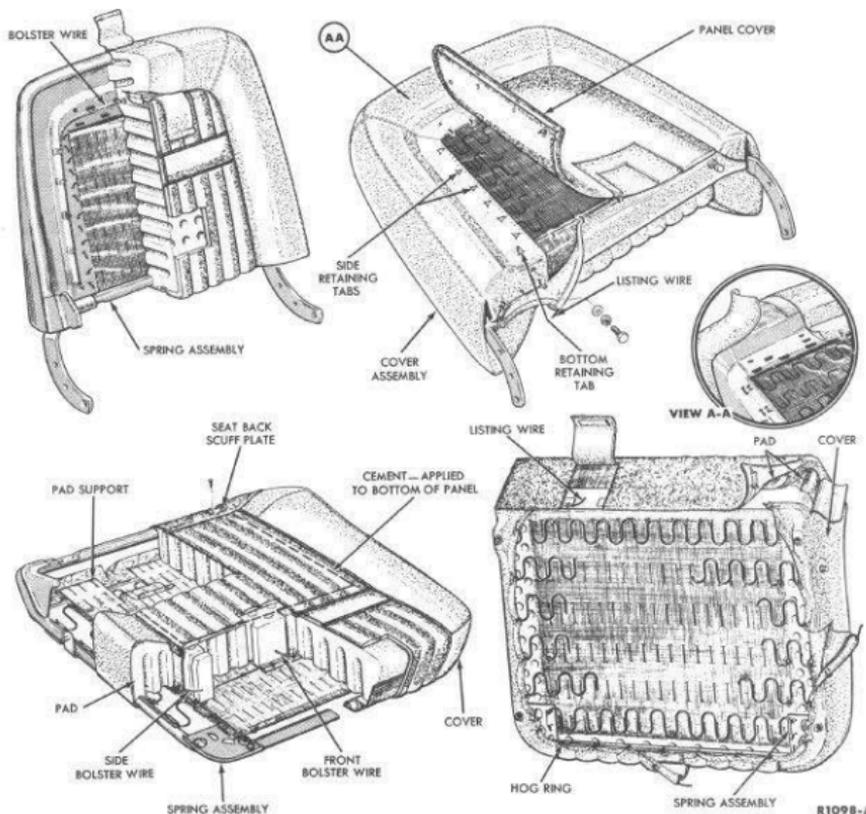

FIG. 97—Futura and S-22 Front Seat Back and Cushion
When installing a new seat cover or pad, refer to Fig. 97 for the loca-
2. Remove the seat back scuff plates and remove the hog rings retaining the seat cushion cover to the spring assembly (Fig. 97). Separate the bottom facing from the cushion cover top rear panel, and allow the facing to remain cemented to the foam pad. Remove the cushion cover.
7. The front and side edges of the cover assembly can now be secured to the bottom of the spring assembly with hog rings as shown in Fig. 97.
1. From each side of the seat, remove the seat back pivot arm retaining pin and retainer, and then remove the seat back. Remove the two seat back stops, seat back pivot arm covers, and remove the panel cover from the seat back (Fig. 97). Remove the hog rings from the seat back assembly, bend the tabs up on the seat back, and remove the seat back cover. Inspect the pad and spring assemblies, and repair or replace as necessary.
3. Place the new cover over the pad and spring assembly, and with 17 equally spaced hog rings, secure the cover to the bolster wire (Fig. 97).
5. Pull the lower rear edge of the cover over the bottom of the spring assembly, and secure each side with three hog rings (Fig. 97).
6. Pull the lower front edge of the cover over the bottom of the spring assembly, and secure to the lower rear edge of the cover with one hog ring on each side (Fig. 97). Secure the lower listing of the cover assembly to the spring assembly with five hog rings, pierce the cover over the bottom retaining tab, and bend each tab toward the top of the seat.